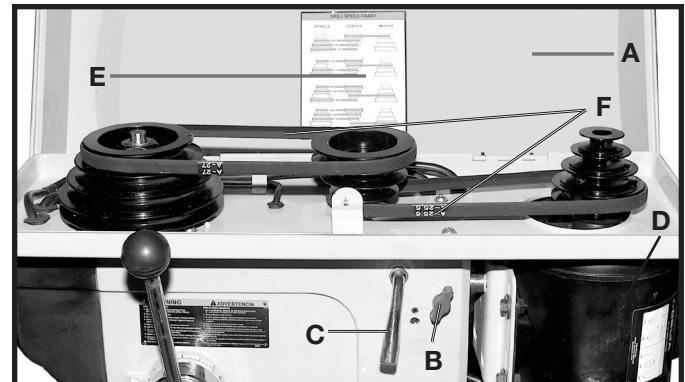

Fig. 28
NOTE: A BELT POSITIONING SPEED CHART (E) FIG. 28, IS LOCATED ON THE INSIDE TOP COVER OF THE DRILL PRESS.
1. Lift up the belt and pulley guard (A) Fig. 28.
2. Release belt tension by loosening tension lock knob (B) Fig. 28, and the tension knob located on the other side of the head casting and moving tension lever (C) forward pivoting the motor (D) toward the front of the drill press.
4. After the belts are positioned on the desired steps of the motor and spindle pulleys, move motor (D) Fig. 28, to the rear until the belt is properly tensioned and tighten tension lock knob (B). The belt should be just tight enough to prevent slipping. Excessive tension will reduce the life of the belt, pulleys and bearings. Correct tension is obtained when the belts (F) can be flexed about 1" out of line midway between the pulleys.